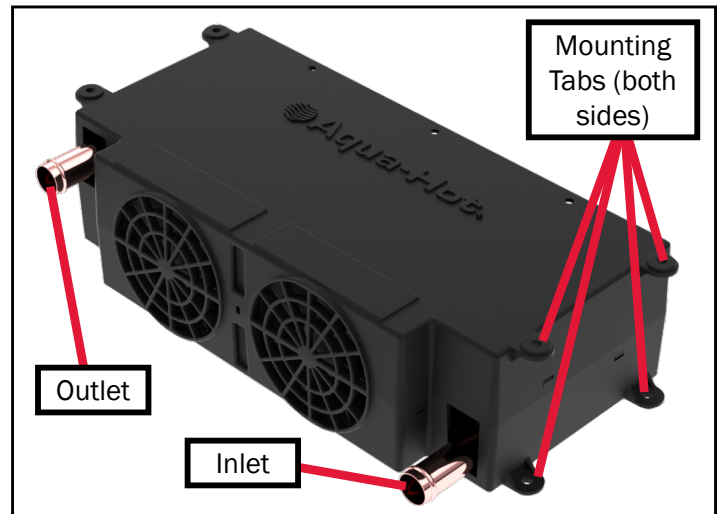

Figure 22
- Coolant must flow in through the bottom of the heat exchanger, and out the top (Figure 22).
- The AHM-125D is designed to work with up to 3 thermostatic heating zones, a minimum of two (2) Cozy heat exchangers, and a maximum of three (3) Cozy heat exchangers. Two Whisper exchangers can be substituted for one Cozy.
2. Mount each heat exchanger permanently into place. There are 4 tabs on both sides - see Figure 22.